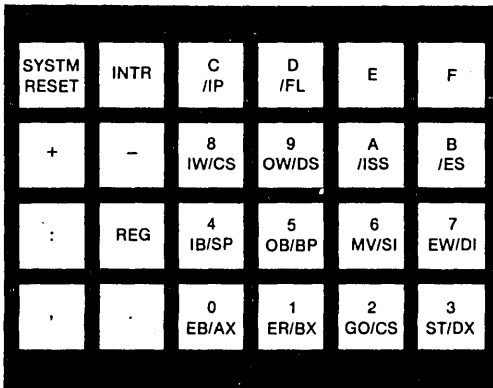

Figure 3. SDK-86 Keyboard
**Commands** — Keyboard mode commands, serial port commands, and Intellec slave mode commands are summarized in Table 1, Table 2, and Table 3, respectively. The SDK-86 keyboard is shown in Figure 3.